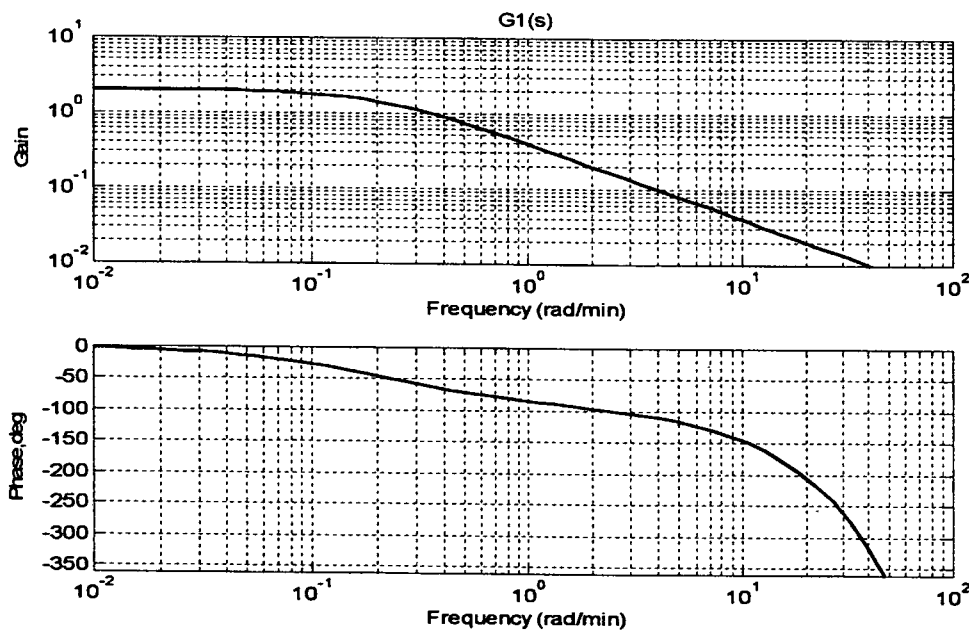

Figure 3. Bode diagram for unknown process.
- v) Identify the transfer function  $G_I(s)$  (form and parameters) given in the Bode diagram in Figure 3. [7]